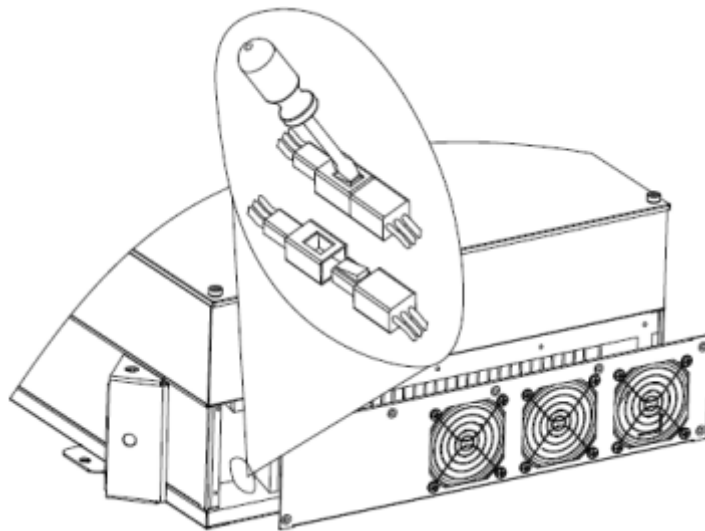

Fig.2.1.9
- 4) Pull out the plug connectors with some tinny tools as Fig.2.1.9.